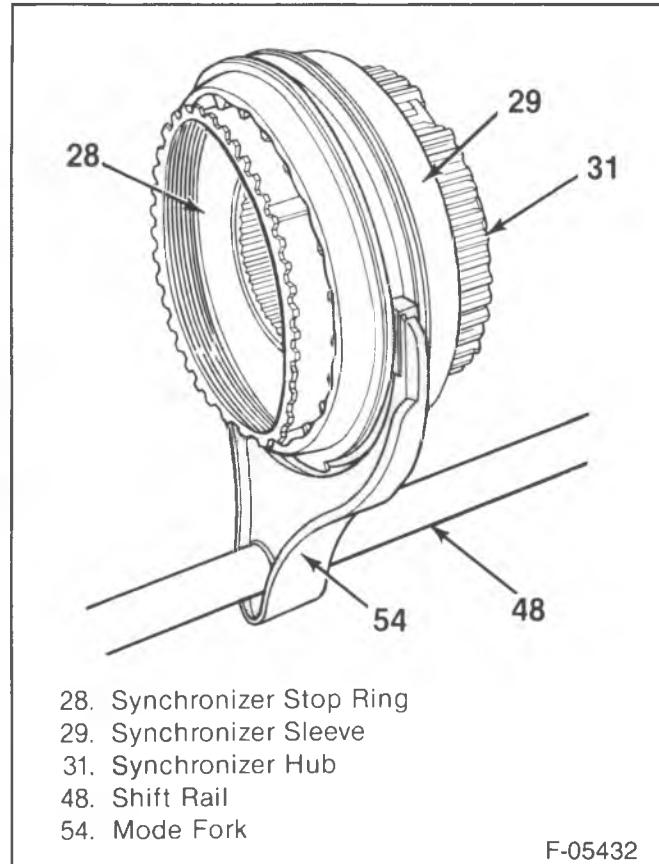

Figure 14—Synchronizer Hub Assembly and Mode Fork
- Nut (63) to 27 N·m (20 ft. lbs.).
8. Range shift hub (34) and the range shift fork into the front case half (45).
9. Synchronizer assembly, mode shift fork (54) and rail into the front case half (45) (figure 14).
10. Front output shaft (21) to the chain (58).